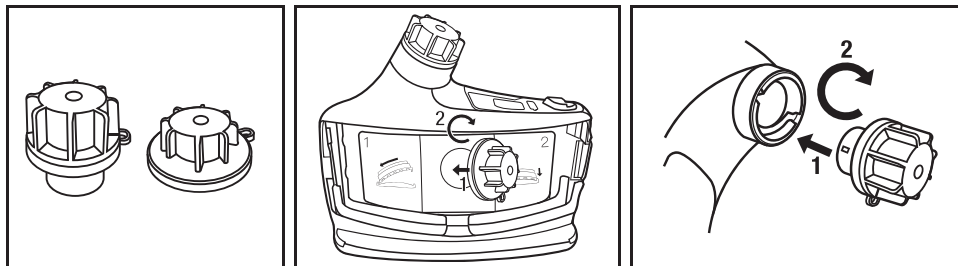

Fig. 16 Attaching motor/blower cleaning and storage covers
- If additional cleaning is required, remove the filter/cartridge and breathing tube. To minimize material falling onto the motor/blower, remove the breathing tube (Fig. 12) and filter/cartridge (Fig. 6) while it is facing downward. Remove the battery. Attach the air inlet and air outlet cleaning and storage plugs (3M™ Cleaning and Storage Kit TR-653) into the TR-600 (Fig. 16). The TR-600 can now be rinsed under running water, immersed, or put in a respirator washer for further cleaning. Water temperature should not exceed 122°F (50°C). The plug gaskets should be inspected for damage and wear prior to each use. Worn or damaged gaskets must be replaced. Washing the TR-600 while using damaged plug gaskets may cause damage to the TR-600 and void the warranty. Blowers which have been dropped or damaged should not be immersed or put into a respirator washer due to potential water ingress. **NOTE: Gaskets should be replaced every 30 uses or yearly, whichever comes first, to minimize use of worn gaskets.**